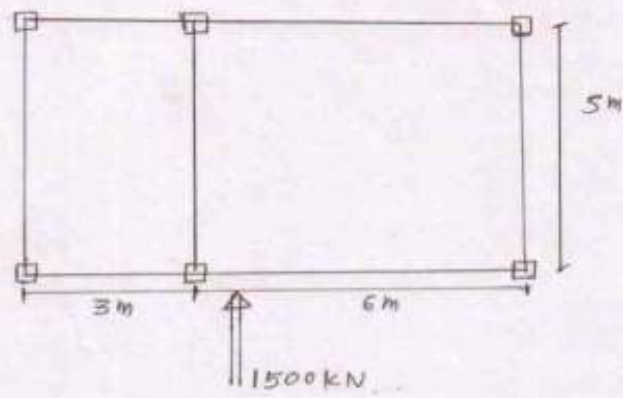

Fig. 1
Q.3 (a) Calculate the torsion moment developed on a typical floor level due to lateral load of 1500 kN as shown in Fig. 1 according to IS1893-2002. All the columns are of 300 mm × 300 mm. Assume uniform mass distribution. **07**
(b) Calculate the additional lateral forces in columns of typical floor level of Fig. 1 due to torsional moment. **07**